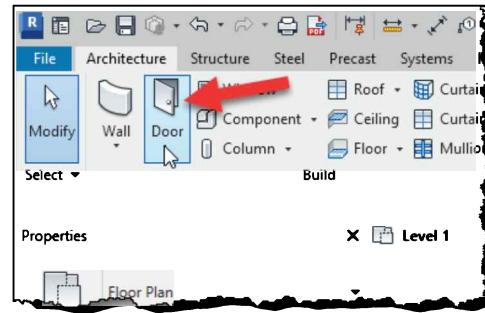

FIGURE 2-2.1 Door tool
2. Click **Architecture** → **Build** → **Door** (Figure 2-2.1).